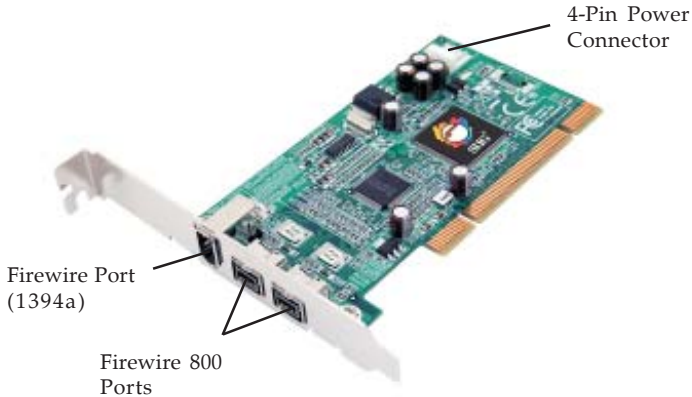

Figure 1. Board Layout
4. Connect an available 4-pin power connector from the system power supply to the 4-pin power connector on the *FireWire 800 32-bit PCI* board (See **Figure 1** on page 3). This connection is recommended for reliable power output.